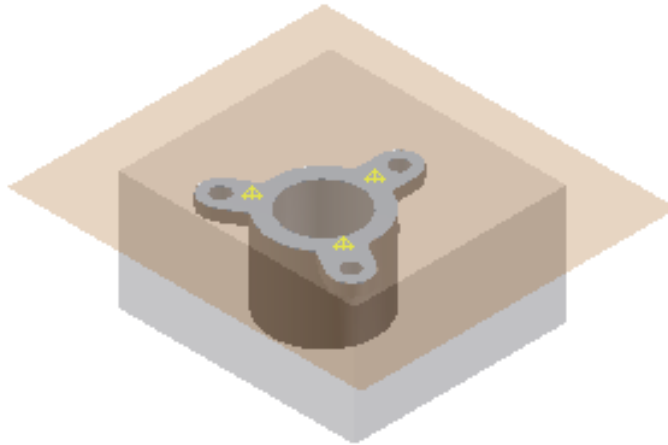

Figure 19-77 Preview of the runoff surface
2. Select the outer loop of the top face of the model; a preview of the runoff surface is displayed, refer to Figure 19-77.